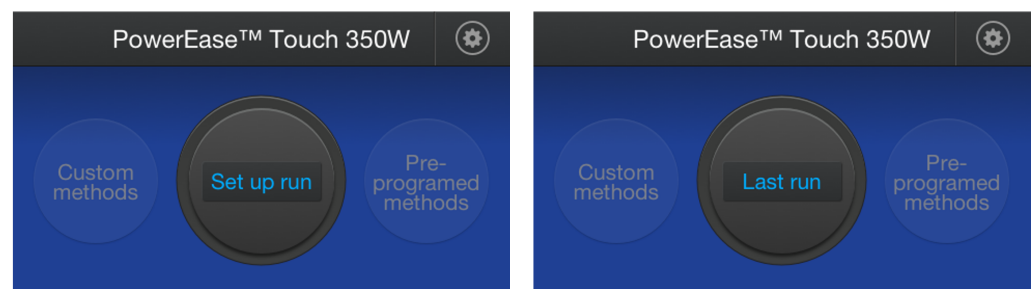

Figure 4 Home screens
The Home icon returns to the Home screen (Figure 4).
On power up, the **Home** screen is displayed (see Figure 4).
1. On the **Home** screen, touch **Custom methods**, then touch **Saved methods** (Figure 4).